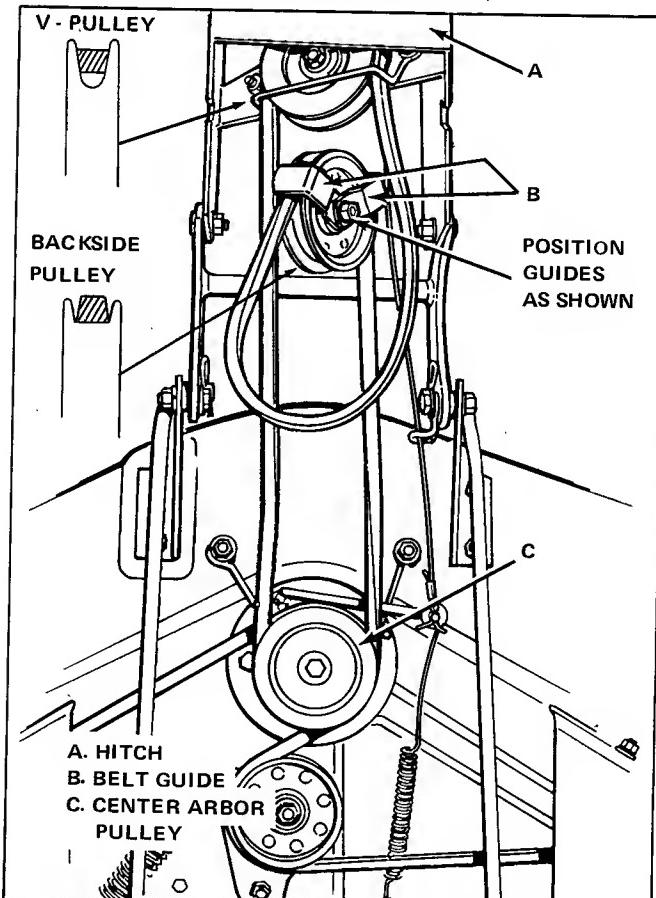

Figure 28. 42" Mower Belt Repalcement
2. Loosen, but do not remove the two capscrews holding the front cover onto the mower hitch (item A, figure 28). Remove front cover.
4. Remove the old belt from center arbor pulley (item C) and the hitch pulleys. Replace with a new belt of proper size and type. Make sure the belt is properly installed and twisted as shown in figure 28.
5. Reinstall the belt guides (items B) on the idler pulley. Position belt guides as shown in figure 28 and tighten them in place.